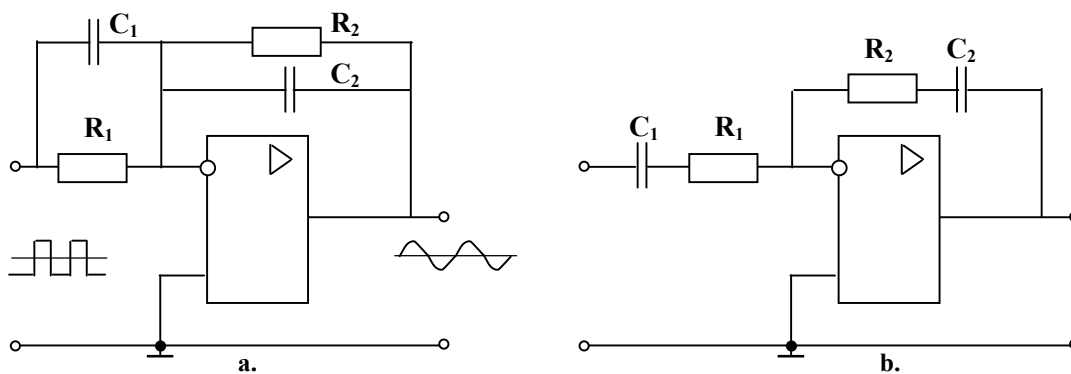

Fig. 2.40
**PID-circuits.** Two variants of proportional-integrated-differential circuit (*PID-regulator, PID-controller*) are shown in Fig. 2.40. They amplify the beginning and the end of the pulse signal. Circuit parameters are as follows:  $K = R_2 / R_1$ ,  $T_1 = R_1 C_1$ ,  $T_2 = R_2 C_2$ .